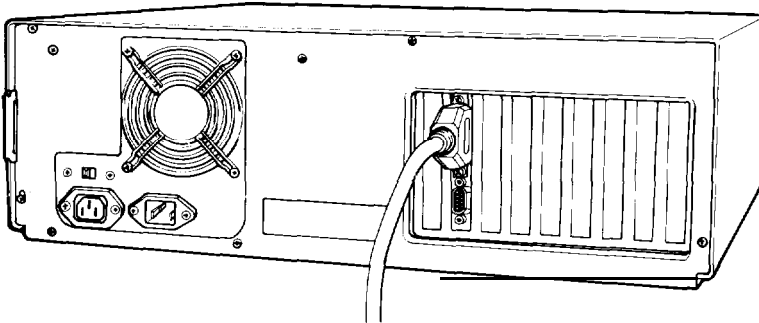

Figure 1-10. Connecting the printer cable to the parallel port
3. One end of the printer cable has a 25-pin male D-connector. (Refer to your printer manual to determine which end this is.) Connect this end to the parallel port on the back panel of the main unit, as shown in Figure 1-10. If the plug has retaining screws, tighten them with a small screwdriver.